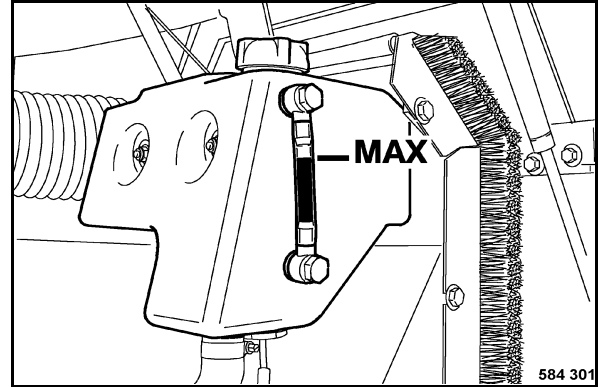

Fig. 178
- Fill in coolant (Fig. 178) up to the MAX-mark and screw the filler cap back on.